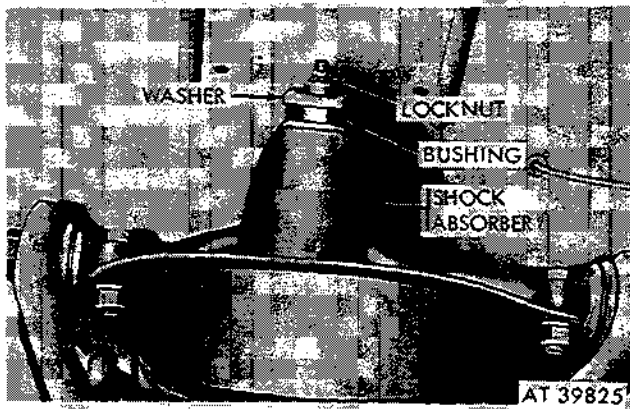

Figure 2-330. Remove shock absorber.
- (4) Remove locknut securing top of shock absorber to crossmember (fig. 2-330).
- (5) Lift off top washer and mounting bushing. Remove shock absorber through opening in lower suspension arm (fig. 2-330).